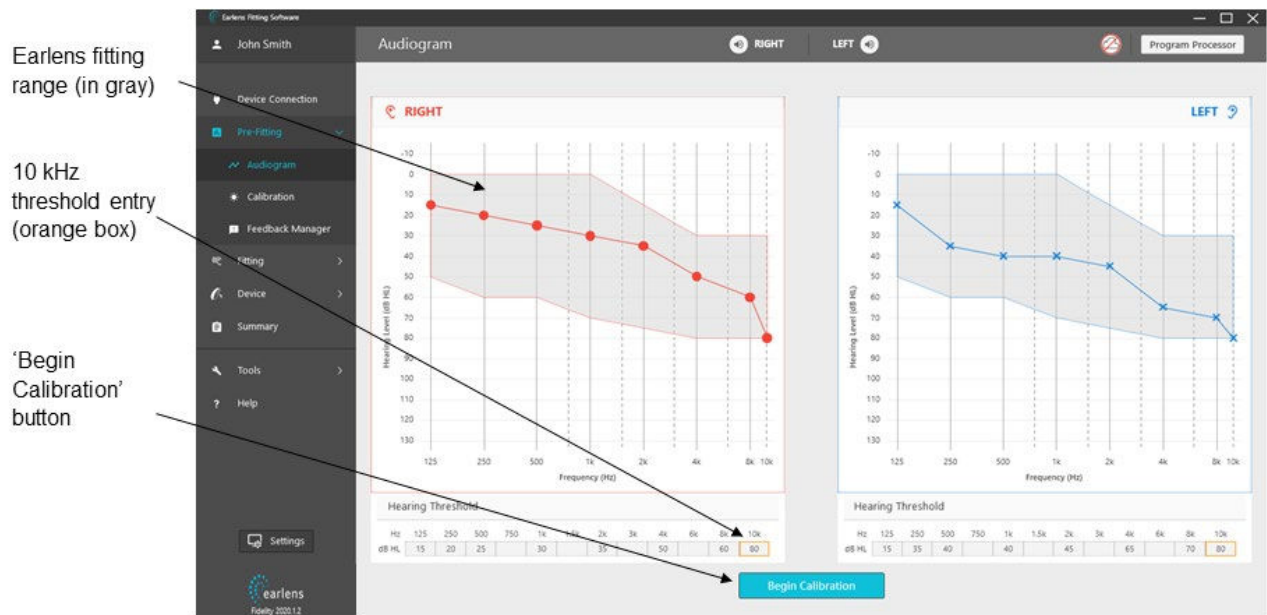
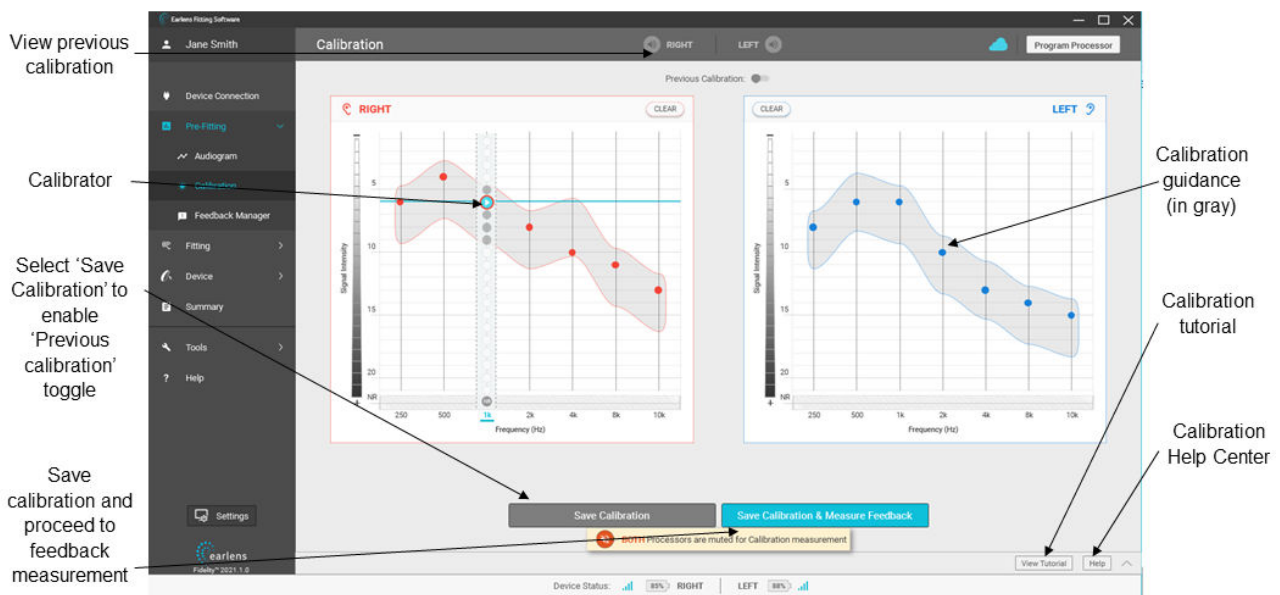

Figure 12: Audiogram screen
Figure 13: Calibration screen
- Enter the 10 kHz threshold, when available (Figure 12). If not available, Earlens Fidelity™ software will predict the 10kHz threshold based on the in-situ calibration results (Figure 13).
- **Calibration:** Measure in-situ calibration by presenting tones at different frequencies. You can also use 'Previous Calibration' toggle button to view up to two previously stored calibrations (if available) (Figure 13). Gray shaded area shows calibration guidance range which is the expected range of calibration for a given audiogram.
Enter the 10 kHz audiometric threshold for the right and/or left ear into the orange boxes, if available (Figure 12). If this frequency was not tested, Earlens Fidelity™ software will estimate the 10kHz threshold based on the slope and severity of hearing loss at adjacent frequencies. Note: To program the Processors, audiometric thresholds and Calibration measurements must be completed.
- Select "Calibration" under Pre-Fitting in the navigation bar to view the Calibration screen (Figure 13).
- Find the patient's threshold at each frequency by presenting tones of increasing intensity until the patient is just able to detect the signal. Standard audiometric threshold seeking practices are recommended for this process. You can practice how to use the calibrator by clicking the 'View Tutorial' button. Calibration Help Center can be accessed using the 'Help' button. The Help Center lists answers to frequently asked questions about calibration (Figure 13). Tones can be presented in two ways: